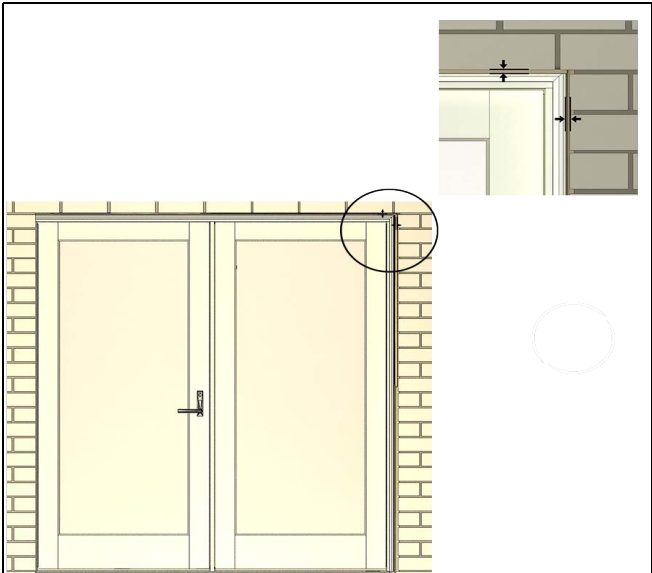

Figure 2 Masonry opening clearance
2. Masonry openings (MO) should be 1/4" (6) higher and 1/2" (13) wider than the outside measurement of the frame (1/2" on each side of the frame) or casing. See Figure 2